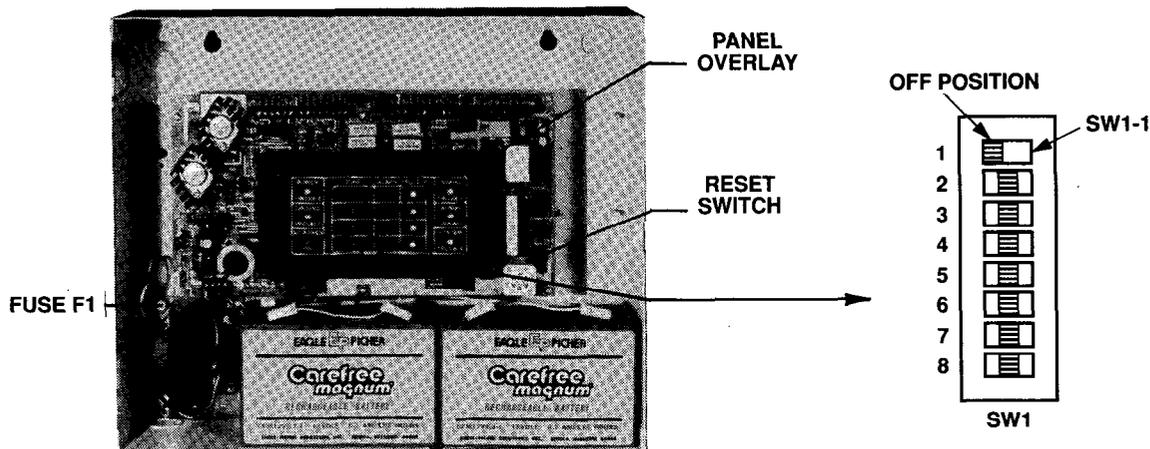

FIGURE 28
- Unsnap and remove panel overlay (Fig. 28).
- Set DIP switch SW1-1 to the OFF position (Fig. 28) and press the RESET switch (Fig. 28) until the LEDs illuminate.
- Press the RESET switch (Fig. 28) until LEDs illuminate.